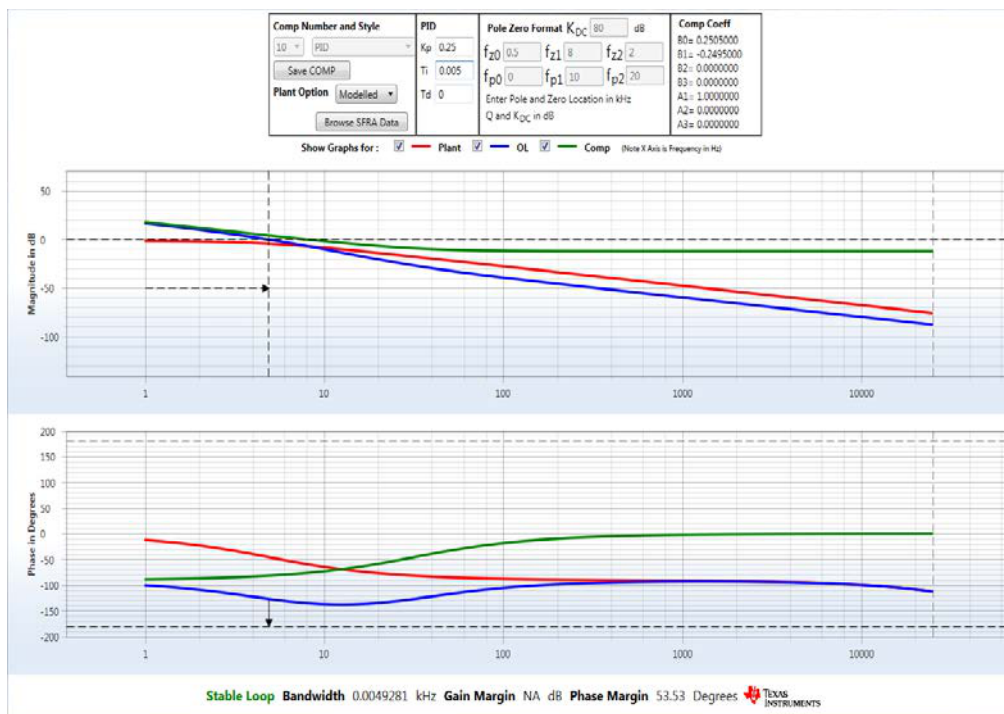

Figure 20. Compensation Designer GUI Snapshot
23. Note the default compensation coefficients used in this build. This is the voltage loop controller COMPV2. Figure 20 shows a snapshot of the compensation designer GUI.